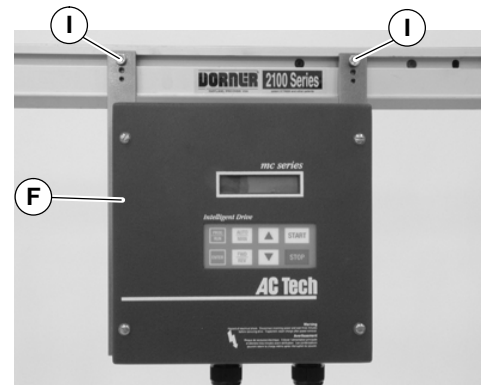

Figure 9
3. Attach controller (F of Figure 9) to conveyor with screws (I).